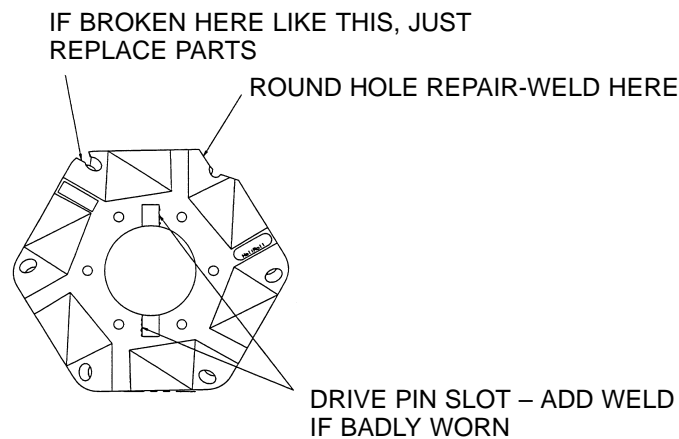
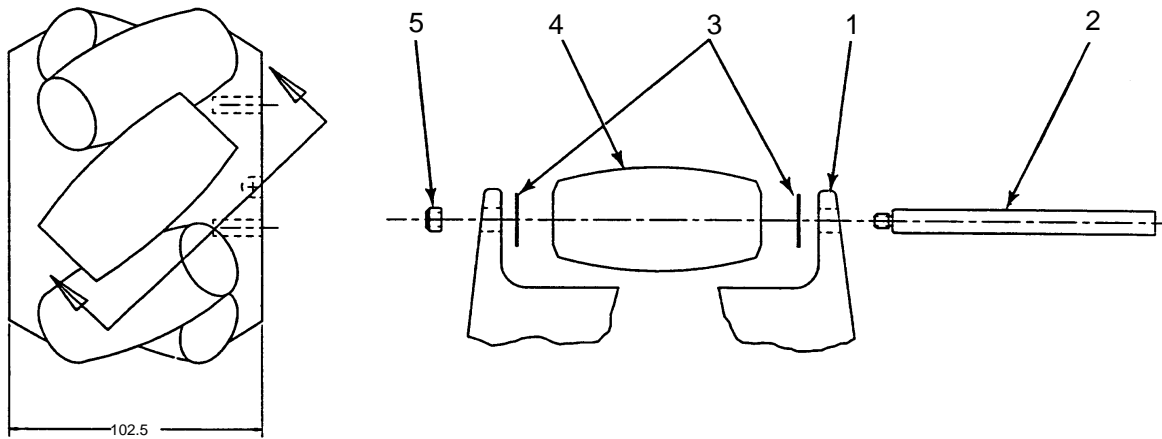

Figure 3
Figure 4
The HeliRoll castings are occasionally damaged by impact with defective containers or pallets. Also, the roller pin may be broken and the roller lost. If the “D” hole of the casting is intact and the round hole will still capture the pin, simply replace the missing parts. If the casting is damaged so that the pin will not be retained, it is still possible to repair weld it without removing it from the loader. A badly worn drive pin slot can also be repaired using this process. Refer to Figure 3 and Figure 4.
- 4) Allow to cool, remove the pin, and grind the inner surface flat where it will contact the roller thrust washer (Figure 4, Item 3).
- 6) Allow to cool, remove the pin, and grind the inner surface flat where it will contact the roller thrust washer (Figure 4, Item 3).